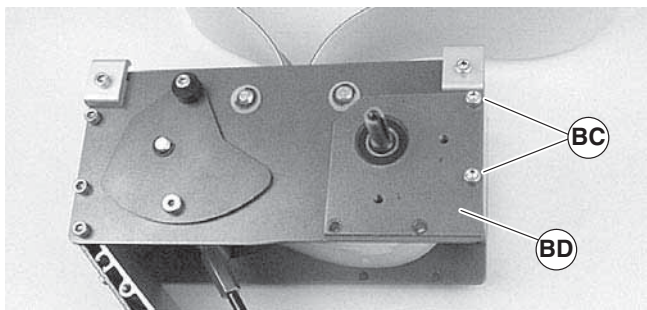
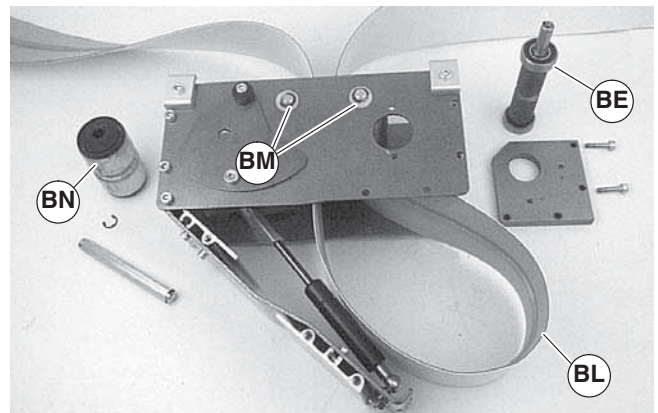

Figure 27
Figure 33
1. Remove drive plate screws (Figure 27, item BC). Remove the tension drive plate (BD).
2. Place loop of belt (Figure 33, item BL) into the drive module between top idler pulleys (BM).
3. Place grooved idler pulley (Figure 33, item BN) into the belt loop and install it in the drive module. Refer to "Belt Removal from Drive Module" on page 14 and reverse step 3.
4. Place drive pulley (Figure 33, item BE) into the belt loop and install it in the drive module. Refer to “Belt Removal from Drive Module” on page 14 and reverse steps 1 and 2. Tighten screws (Figure 27, item BC) to 80 in-lb (9 Nm).